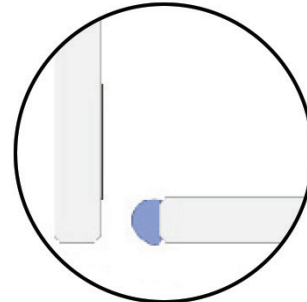

FIG 11.
- Run a continuous bead of silicon down entire length of 10mm face of installed wall to glass panel and across floor channel to the width of the glass to glass panel (FIG 11).